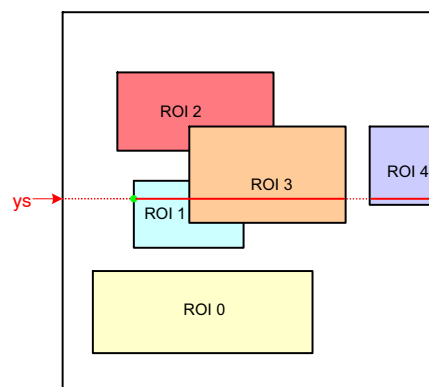

**Figure 28. Scanning the Image Array with Five Windows**
Figure 28 illustrates a practical example of a configuration with five windows. The current position of the
- The read pointer is not necessarily incremented by one, but depending on the configuration, it can jump in y-direction. In Figure 28, this is the case when reaching the end of ROI0 where the read pointer jumps to the y-start position of ROI1.